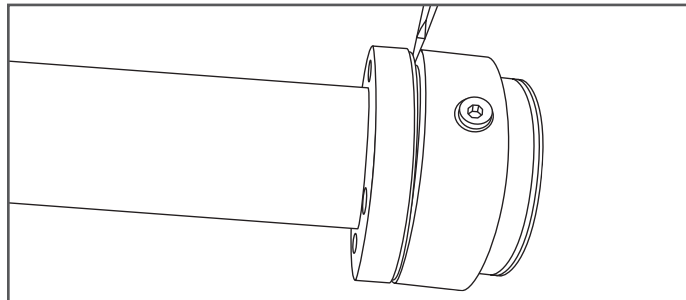

Figure 8-4
4. Pry the back section of the DoubleTrac® fitting using a flat tip screwdriver or flat pry bar (Figure 8-4).